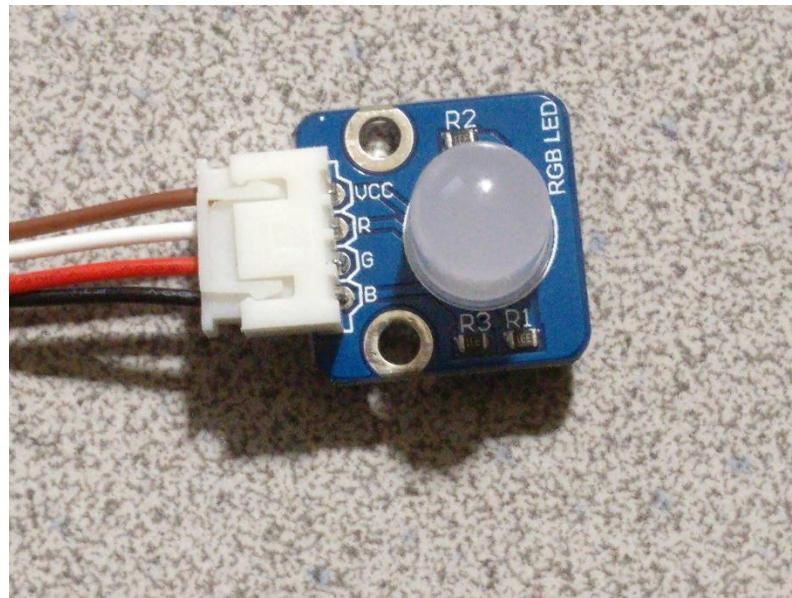

Figure 8-12 – 4-wire male-to-female wire connected to RGB LED module
- a. Connect the female end of one of the 4-wire male-to-female wires to the RGB LED module as shown in Figure 8-12.